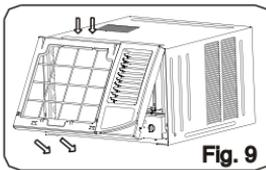

Fig. 9
- Install the frame. (See Fig.9).